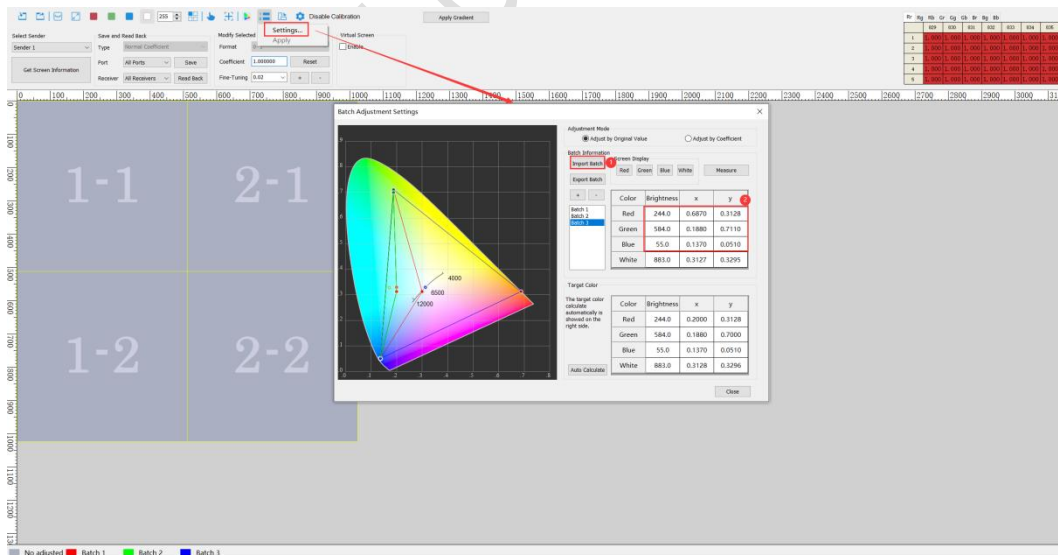

Fig 8.3.2.1 Set batch information
Step 1: Click **1**  and select **Settings** to open the **Batch Adjustment Settings** dialog box. Select an adjustment mode, add a batch, and modify input values or import batches to set batch information, as shown in Fig 8.3.2.1.